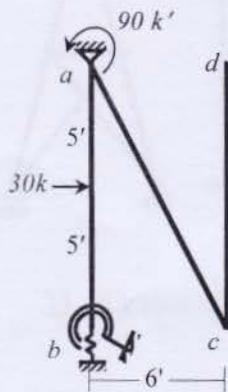

Fig. 1
- Use Stiffness Method (neglecting axial deformations) to calculate rotation at joint *a* of the frame loaded as shown in Fig. 1, if the joint *b* is attached to a circular foundation of radius 3.5 ft on the surface of subsoil (half-space) with shear wave velocity ( $v_s$ ) equal to 1200 ft/sec